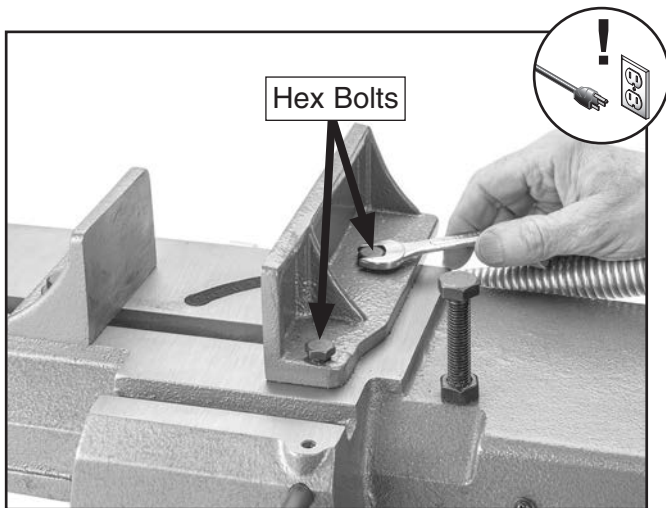

Figure 27. Setting vise angle.
2. Loosen two hex bolts shown in **Figure 27**.